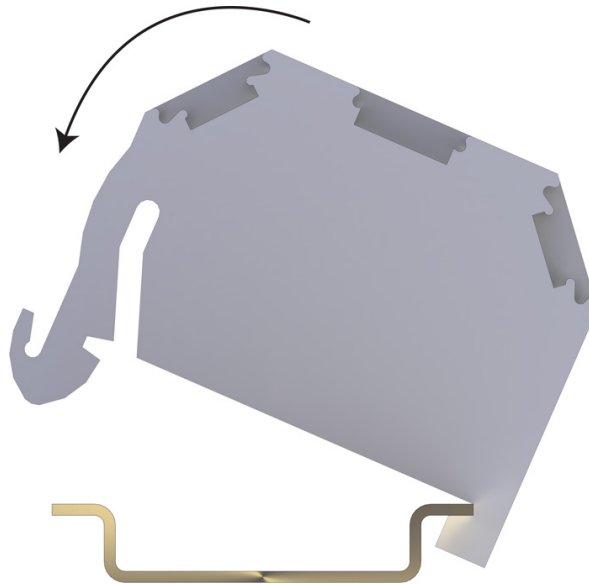

FIGURE 6-1. Installing surge protectors on a DIN rail
3. Mount the surge protectors on the DIN rail. The surge protectors are attached to the DIN rail as shown in FIGURE 6-1.